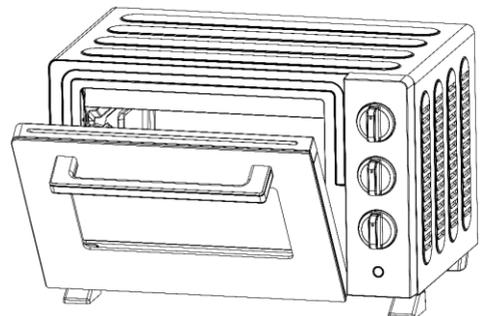

Fig. 12
10. If grilling or toasting, leave the oven door ajar (fig. 12).